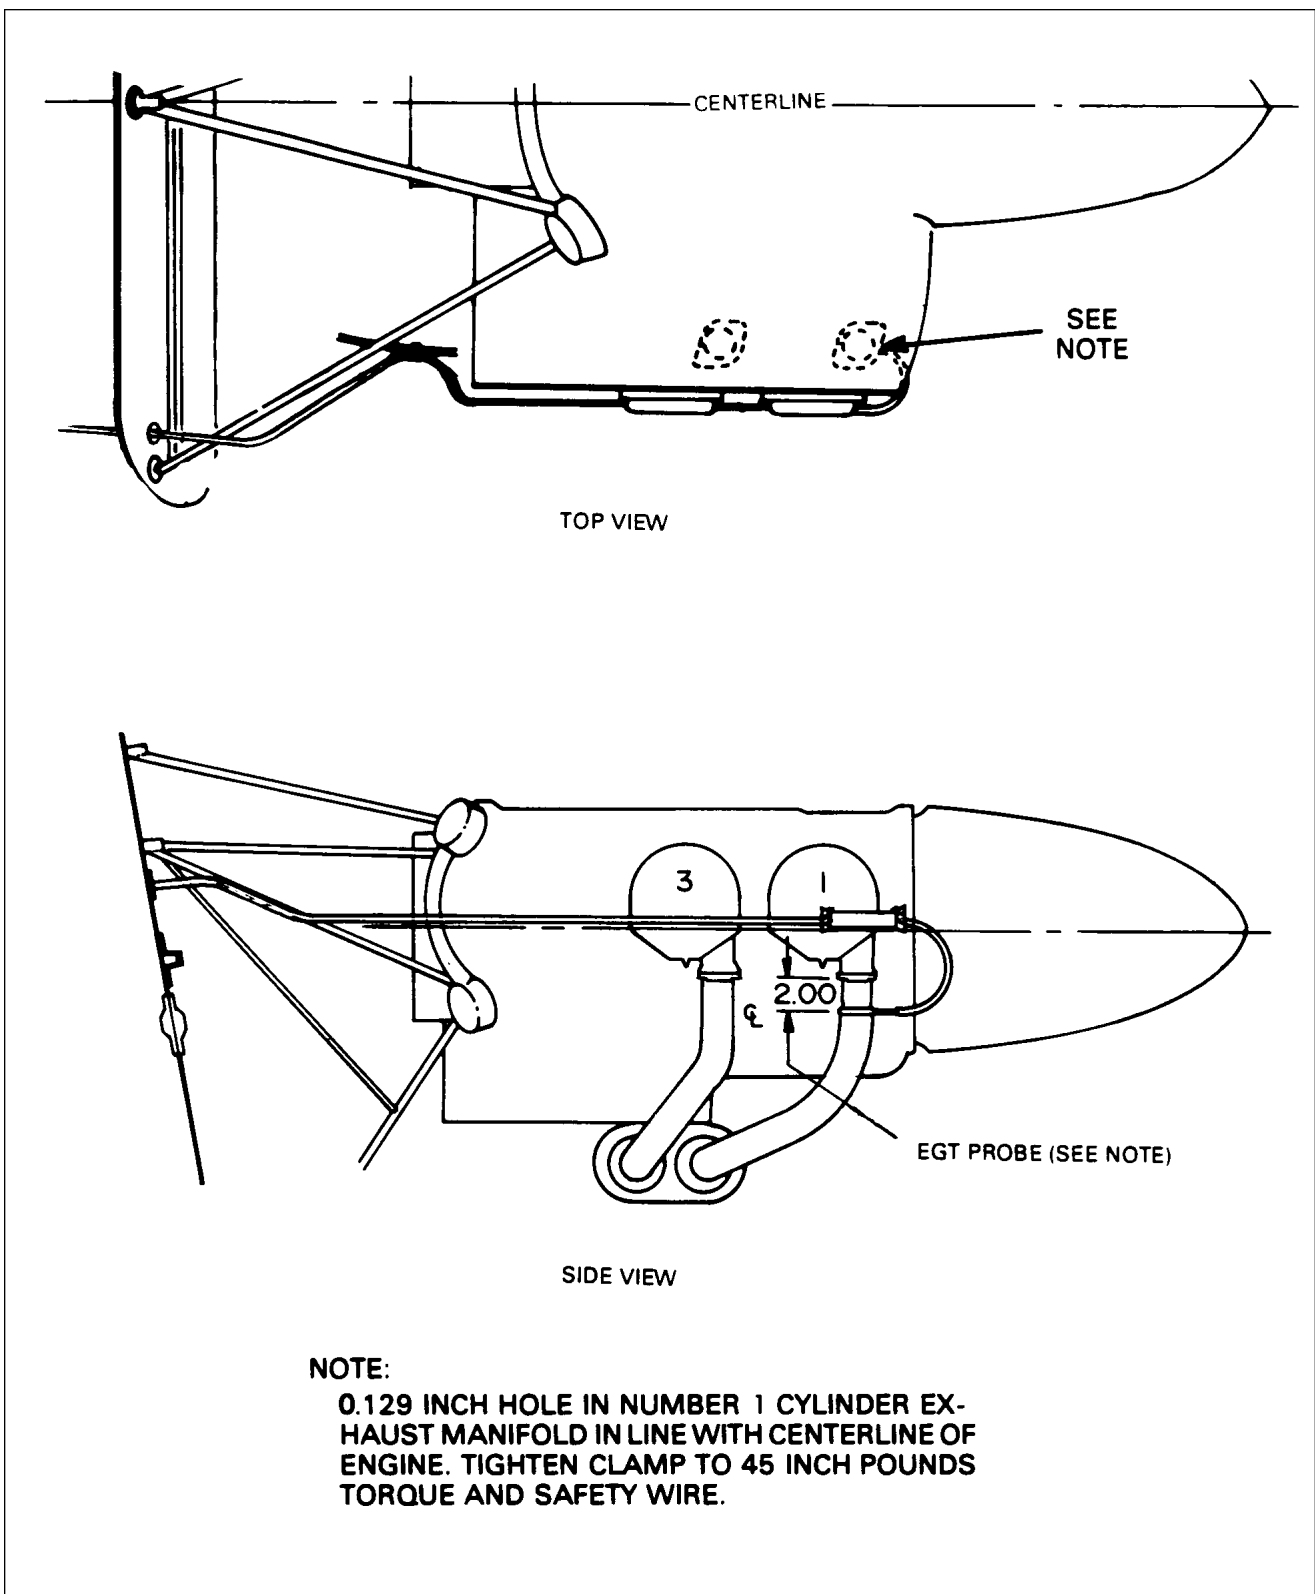

Figure 77-1. Exhaust Gas Temperature Probe Installation
4. Installation of EGT Probe and Gauge (Refer to figure 77-1)